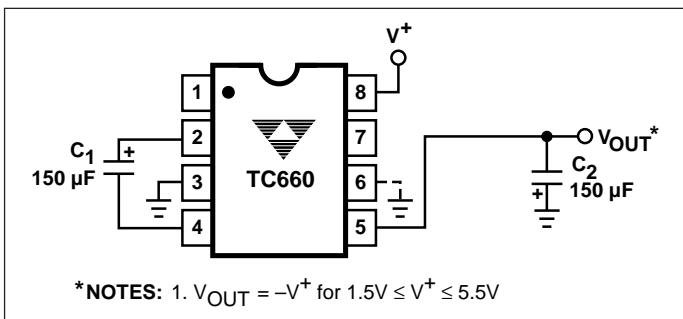
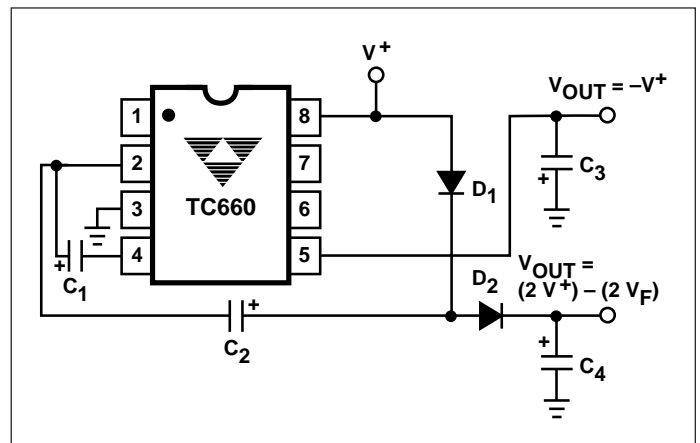

Figure 3. Simple Negative Converter
Figure 10. Combined Negative Converter and Positive Multiplier
Figure 3 shows typical connections to provide a negative supply where a positive supply is available. A similar scheme may be employed for supply voltages anywhere in the operating range of +1.5V to +5.5V, keeping in mind that pin 6 (LV) is tied to the supply negative (GND) only for supply voltages below 3.0V.
The output characteristics of the circuit in Figure 3 are those of a nearly ideal voltage source in series with  $6.5\Omega$ . Thus, for a load current of  $-100mA$  and a supply voltage of +5V, the output voltage would be  $-4.35V$ .
Figure 10 combines the functions shown in Figures 3 and 8 to provide negative voltage conversion and positive voltage multiplication simultaneously. In this instance, capacitors C1 and C3 perform the pump and reservoir functions, respectively, for the generation of the negative voltage, while capacitors C2 and C4 are pump and reservoir, respectively, for the multiplied positive voltage. There is a penalty in this configuration in that the source impedances of the generated supplies will be somewhat higher due to the finite impedance of the common charge pump driver at pin 2 of the device.